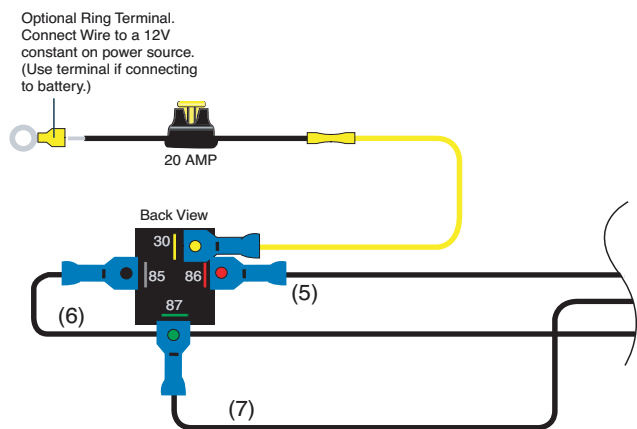

Figure 8
8. If choosing to use the ring terminal, attach it to the other end of the fuse wire (Figure 8).